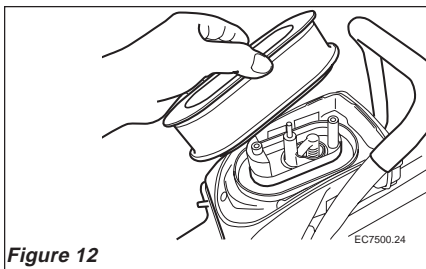

Figure 12
3. Unscrew the two bolts securing the filter element, remove the filter element. See Figure 12.